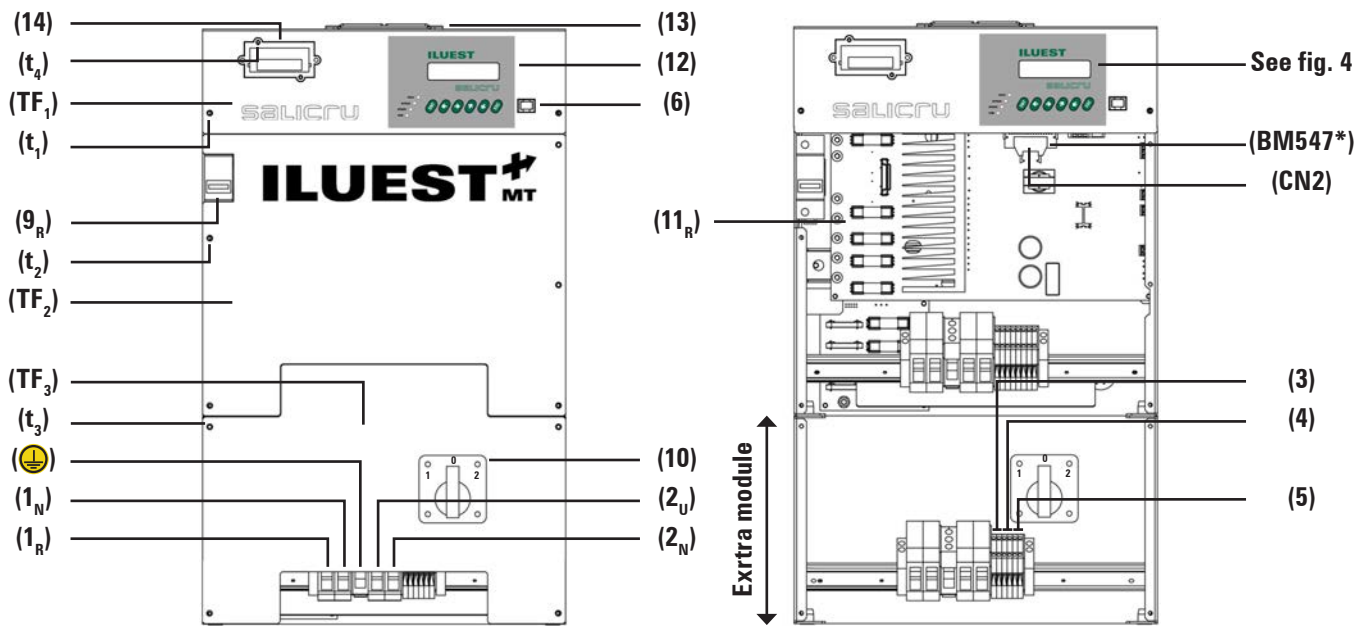

Fig. 2. Single phase **ILUEST+ MT (T)** view up to 20 kVA, with the option module.
- ☐ Single phase equipments up to 20 kVA or three phase ≤ 45 kVA (see figures 2 and 5 respectively). A metal case is added with the options, which is mechanically fixed from factory to the own base of **ILUEST+ MT**.